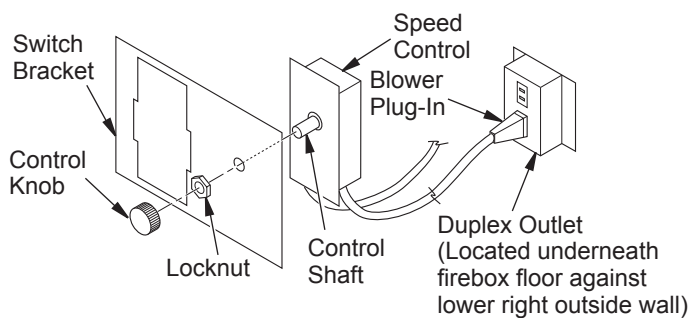

Figure 26 - Attaching Speed Control to Firebox
5. Mount speed control box to switch bracket by placing the plastic control shaft forward through the opening in the switch bracket (see Figure 26).
- Mount the speed control box against the mounting plate provided in the lower fireplace cavity by placing the plastic control shaft forward through the round hole (see Figure 26, page 17).
- While supporting speed control, secure control shaft with lock nut by pushing and turning lock nut with pliers clockwise until it is tight against mounting plate. Place control knob provided on shaft (see Figure 26, page 17).